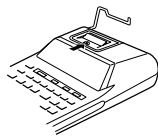

Fig. 1
- Remove the printer cover. (Fig. 1)